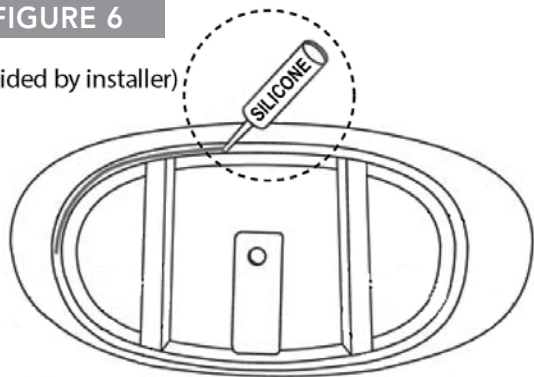

FIGURE 9
- 17 Fill tub with water to the overflow and then drain the tub while inspecting the waste connections below the floor for leaks. Access from below will be necessary for this step (Figure 9).